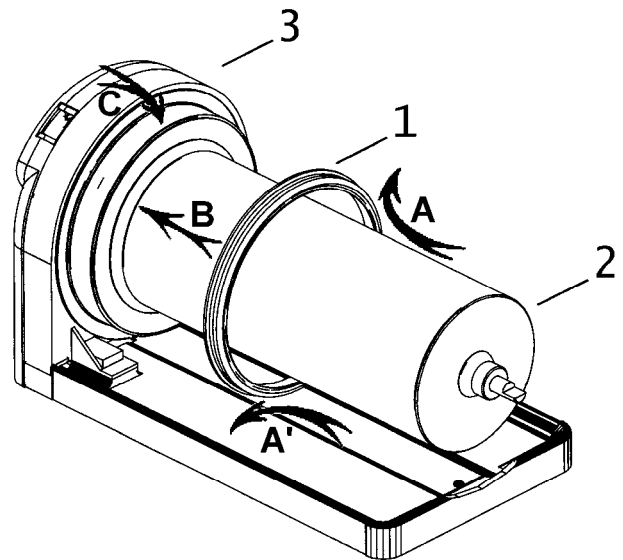

Figure 5
- 2.1. Once the bowl has been removed, pull the spiral (Figure 5) forward (arrow A) and take the head out of the shaft end (#2).
4. Assemble the spiral (**Figure 5**). Lubricate with food grade lubricant the silicone gasket (#4) and insert it in the head of the spiral (C). Insert the spiral (#1) around the evaporator (#3) and fit the head in the shaft by turning slightly until it is placed in its setting.